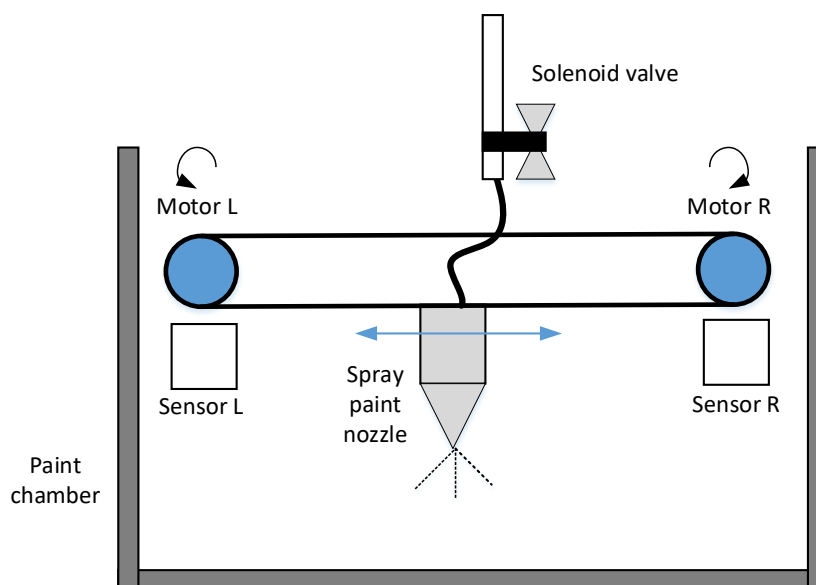

Figure B3.
- B3.** An automated paint machine is to be designed to achieve uniform spray painting of manufactured parts. A block diagram of the desired system is shown in Figure B3. Paint nozzle makes linear motions with the help of left and right motors. Motor L moves nozzle to the left and Motor R moves nozzle to the right. Spray paint is controlled by turning solenoid valve ON and OFF. Painting should start with nozzle at far left. Nozzle should travel back and forth 3 times before completing the operations.